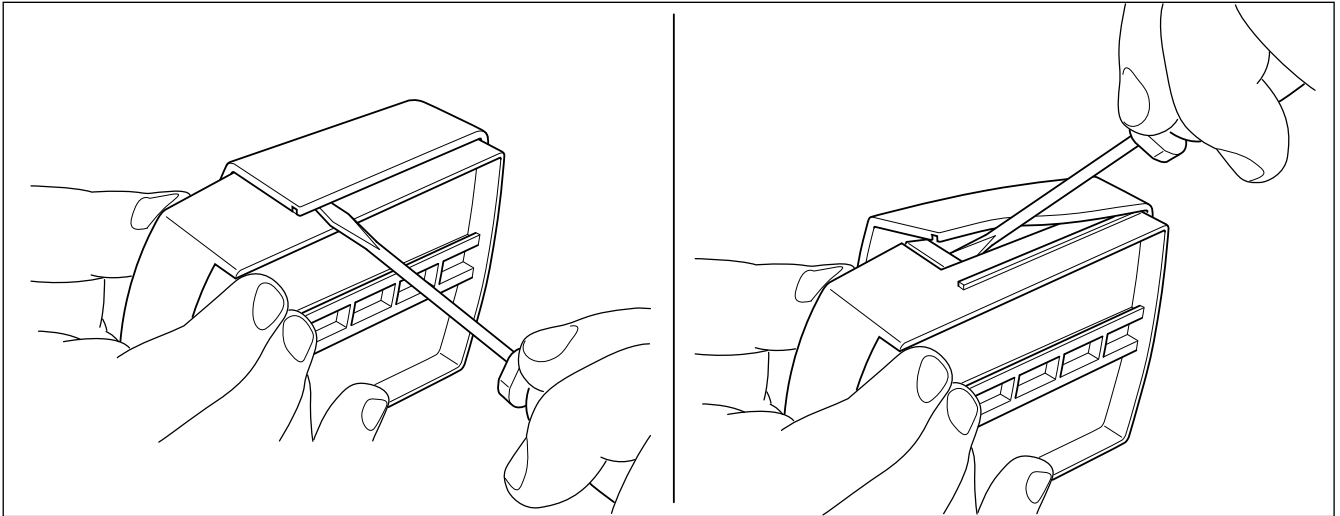
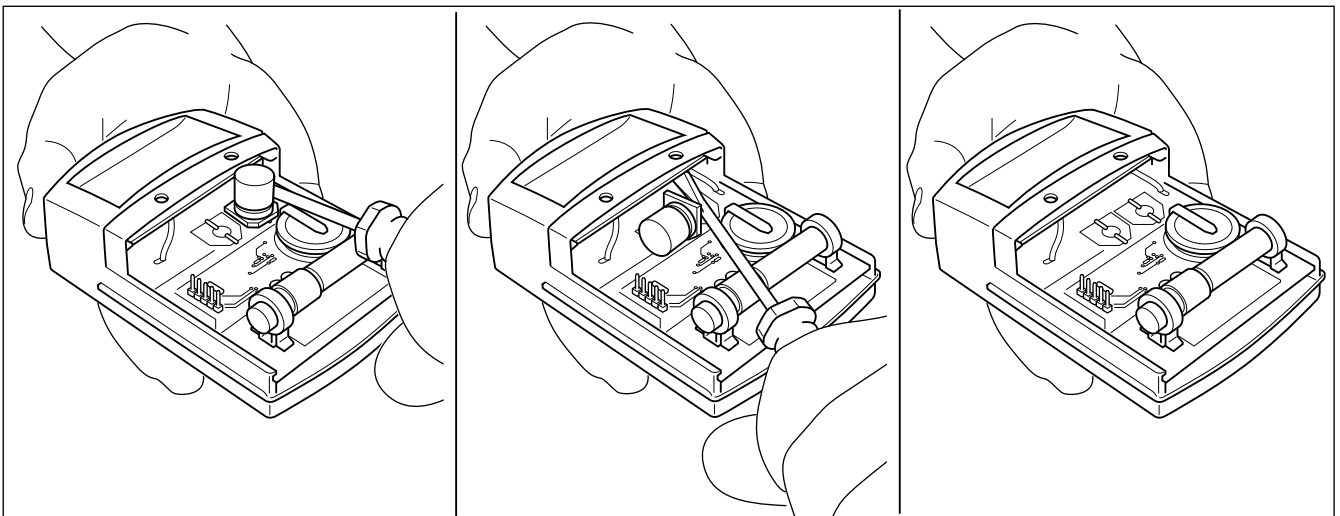

Fig. 11.3 Remove the cover
Fig. 11.5 Remove capacitor 2
- You should destroy the defective outside temperature sensor/transmitter to make sure it does not continue sending data to the radio receiver unit. (→ **Fig. 11.3**) to (→ **Fig. 11.5**) show how to do so.